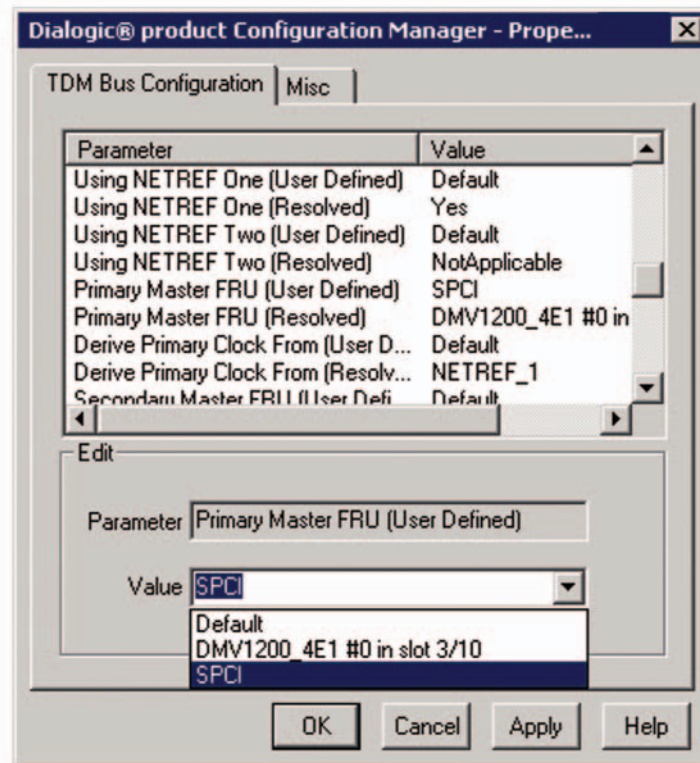

Figure 6. Configuring the SPCI Board as the TDM Bus Primary Master
2. Double-click on the 'Bus-0' device, in order to configure the SPCI board as the CT Bus Primary Master. This is illustrated in Figure 6.